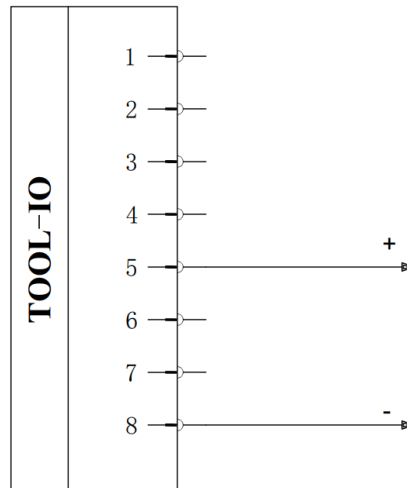

Figure 2-33 : Single pin power mode wiring
2) Wiring method: as shown in **Figure 2-33**.